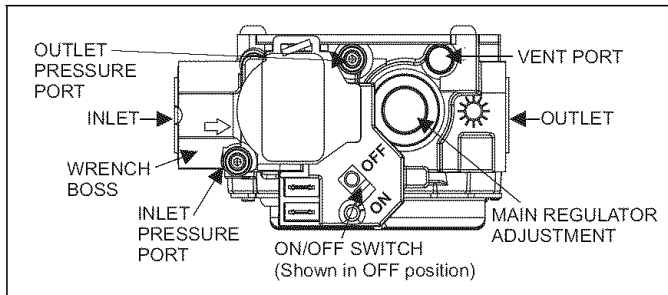

FIGURE 8: Gas Valve
14. Remove pressure tap plugs from gas valve and connect water gauge to the pressure tap ports. See Figure 8 for location of the gas valve pressure taps and pressure regulator adjustment.